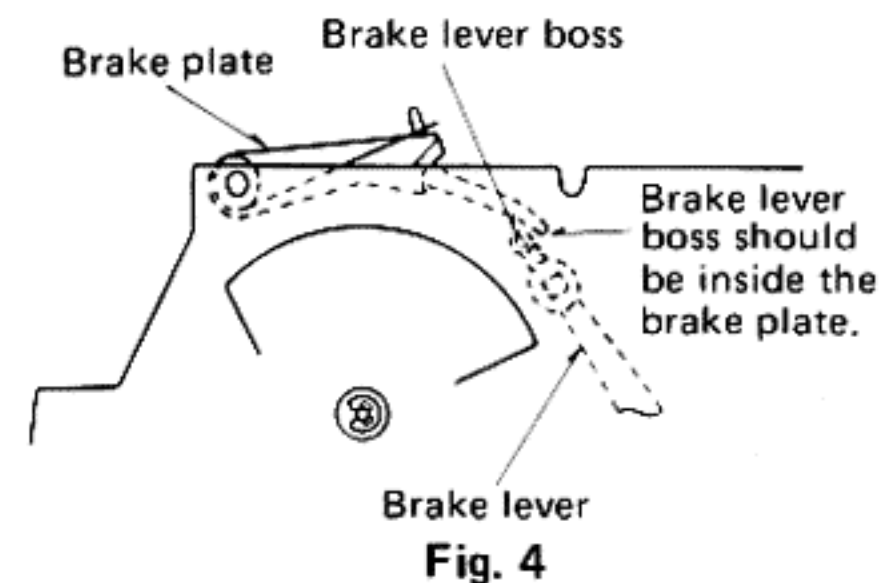

Fig. 4
- (1) Turn the shaft to rotate the main gear until no remaining of the gear.
- (2) The brake lever boss of the lift base should be inside the brake plate (cueing up). (Fig. 4)